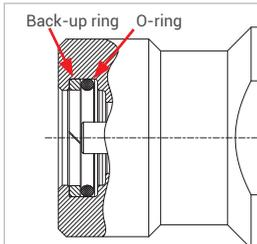

Figure 10
- ▶ Before inserting the receptacle insert (Pos. 7), check both sealing elements (o-ring and back-up ring, *Figure 10*) for correct installation direction, proper position and damages.